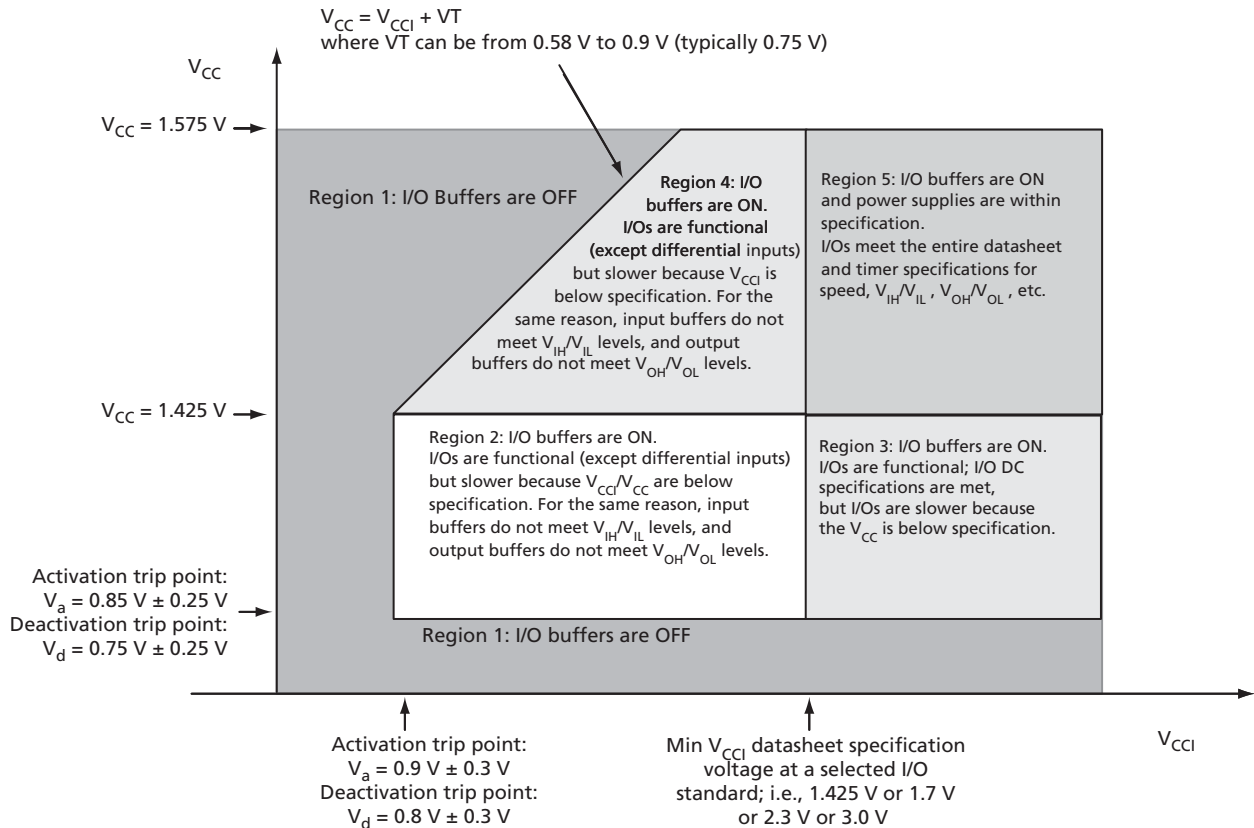
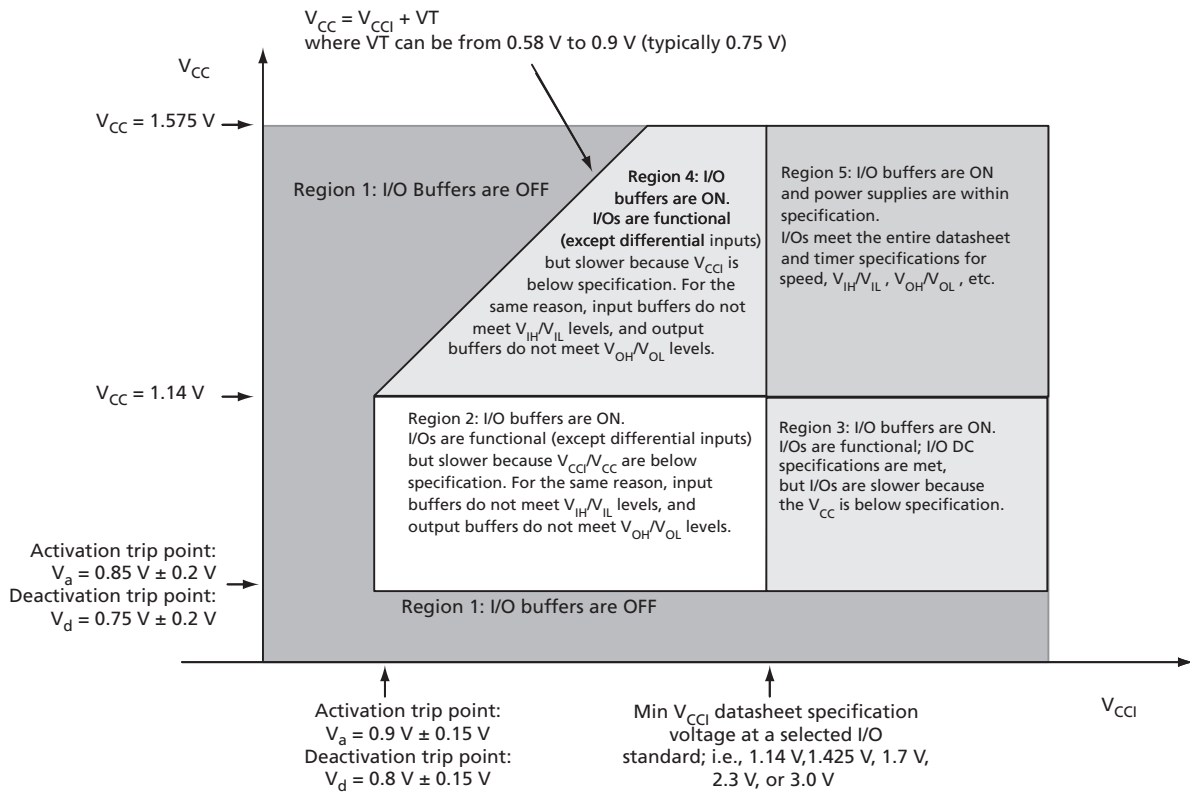

Figure 2-1 • V5 Devices – I/O State as a Function of V_{CCI} and V_{CC} Voltage Levels
Figure 2-2 • V2 Devices – I/O State as a Function of V_{CCl} and V_{CC} Voltage Levels
Sophisticated power-up management circuitry is designed into every IGLOO device. These circuits ensure easy transition from the powered-off state to the powered-up state of the device. The many different supplies can power up in any sequence with minimized current spikes or surges. In addition, the I/O will be in a known state through the power-up sequence. The basic principle is shown in Figure 2-1 on page 2-4 and Figure 2-2 on page 2-5.
1. V_{CC} and V_{CCI} are above the minimum specified trip points (Figure 2-1 on page 2-4 and Figure 2-2 on page 2-5).
Actel recommends using monotonic power supplies or voltage regulators to ensure proper power-up behavior. Power ramp-up should be monotonic at least until V_{CC} and V_{CCPLX} exceed brownout activation levels (see Figure 2-1 and Figure 2-2 on page 2-5 for more details).